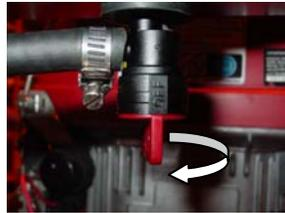

Figure 1
1. Check to make sure the shut off valve, located at the bottom of the tank is in the "ON" position. (Figure 1)